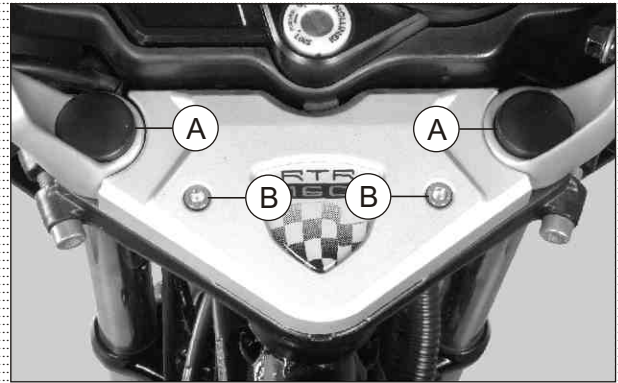

Fig. 6.39
- Remove cap front fork (A) (2 nos) from the handle bar assembly. (Fig. 6.39)
- Loosen allen screws (B) (M6x30 -2nos) and take out cover assembly upper bracket. (Fig. 6.39)